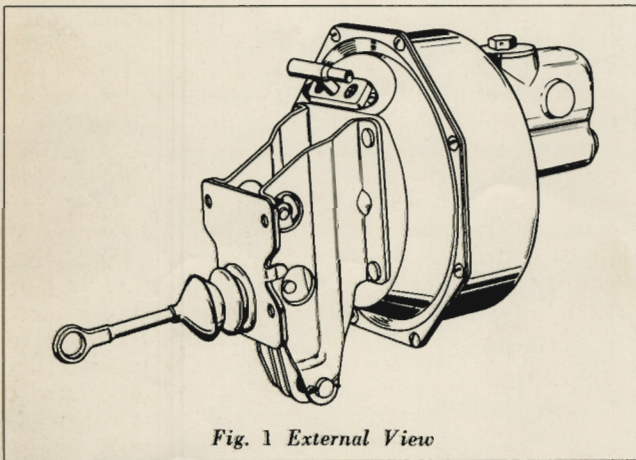

Fig. 1 External View
The Master-Vac is a self-contained vacuum and hydraulic power braking unit. It is of the atmospheric suspended type which utilizes engine intake manifold vacuum and atmospheric pressure for its power. It consists of three basic elements combined into a single unit, see Figures 1 and 3.
1 Coat bore of hydraulic cylinder (9) with brake fluid. If secondary cup (3) was removed from piston (4), dip cup in brake fluid and assemble cup over end of piston from end shown. Dip hydraulic cylinder parts (3) through (8) in brake fluid and assemble in bore of cylinder in order shown. Then assemble stop washer (2) and snap ring (1), making certain snap ring is seated in ring groove. Note: Stop washer (2) and residual check valve seat (8) are used *only* with hydraulic cylinder Fig. 1. Assemble new gasket (10) on filler cap (11) and replace filler cap. Gasket not used with plastic type filler cap.